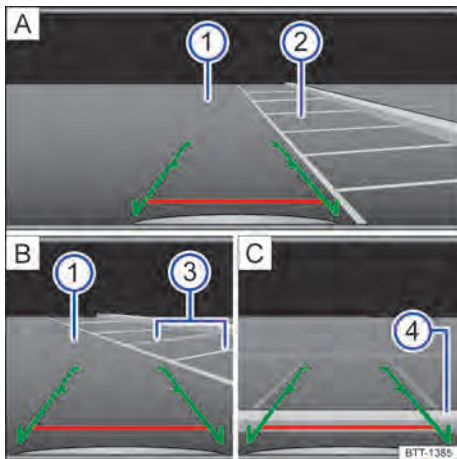

Fig. 101 Exhibition on the radio system display: parking with the rear view camera system.
Key for → Fig. 101:
- Position the vehicle in front of the parking spot → Fig. 101 **2** **A**.